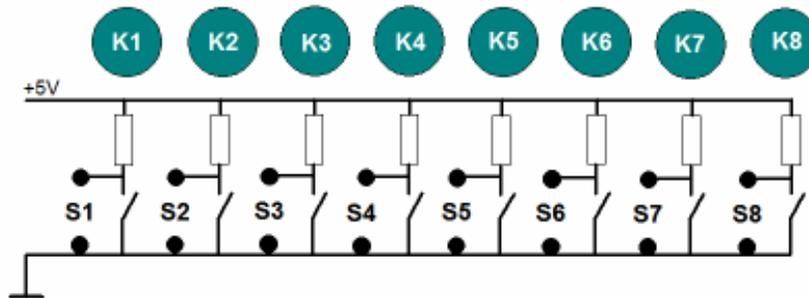

Fig 1
- Up to 8 capacitive or galvanic individual touch keys Fig1